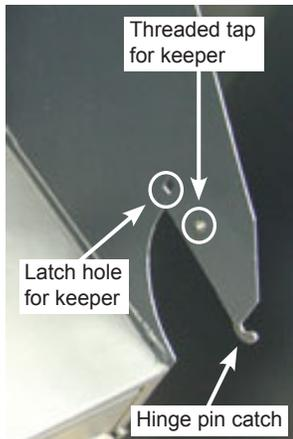

Figure 17. Side panel mounting locations
1. Refer to Figure 17 and 18. Position the 9100 X2 control panel so it is nearly flat against the opening in the top cabinet enclosure and just above the hooked hinge pin catches on the side panels. Slowly lower control panel until the hinge pins slip into their respective catches on the side panels. Make sure the metal cabinet side panels slip in between the keepers and the plastic sides of the control panel.
3. Refer to Figure 17 and 18. Fit the keepers (one at time, left and right) flat against the inside edge of the top cabinet enclosure side panels with the hook end set into the latch holes. Secure the keepers to the side panels of the cabinet top enclosure with the mounting screws.